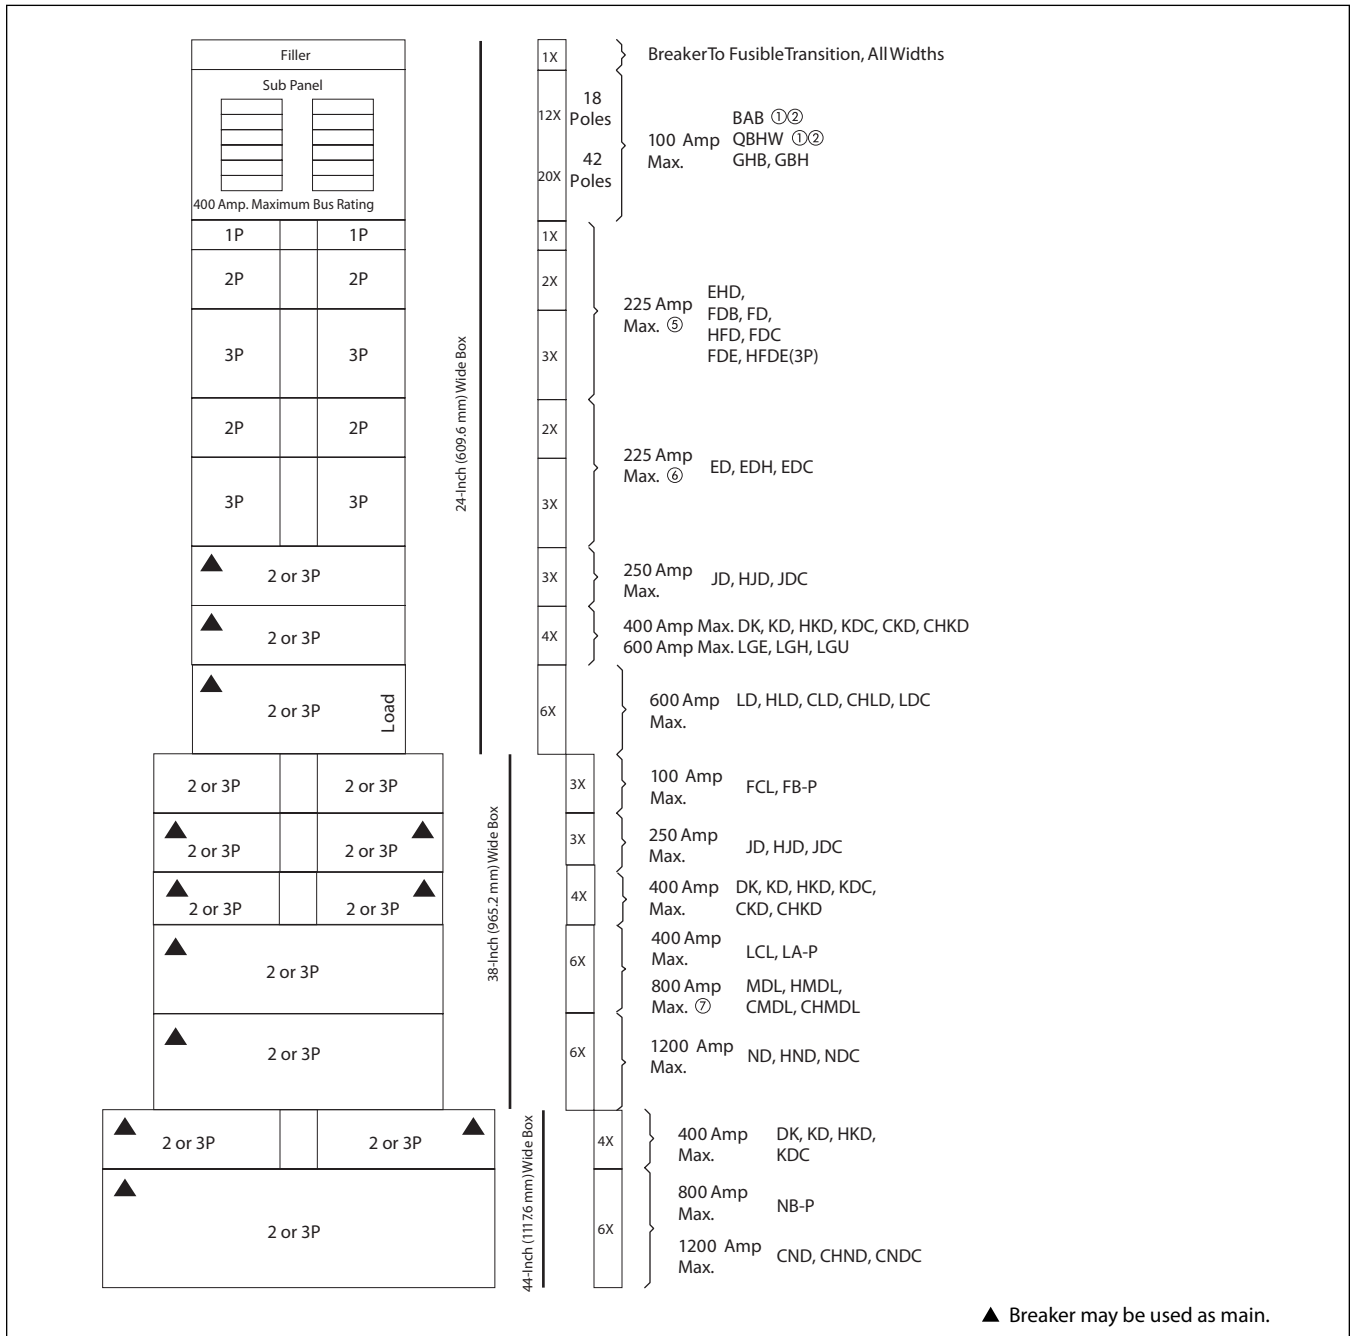

Figure 2-4. Layout for Branch and Horizontally Mounted Main Devices — PRL4B
* = Space available for branch devices. For device sizing, see **Figure 2-4** on **Page 2-18**.